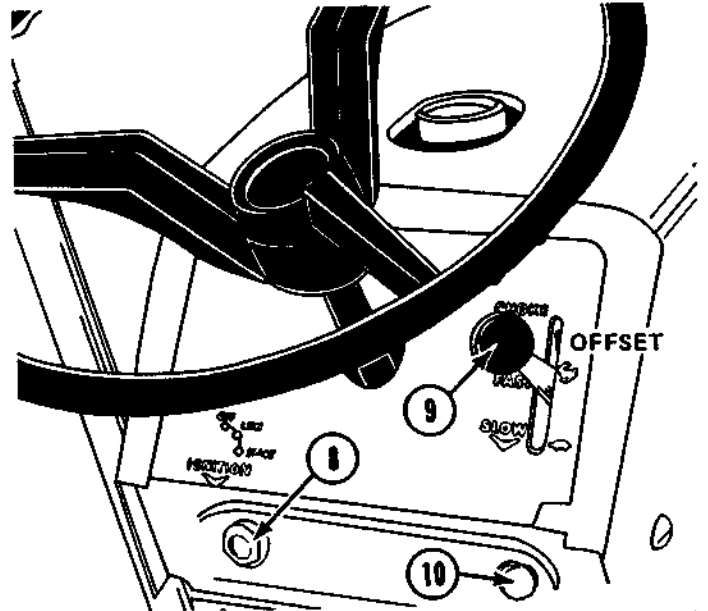

Figure 6
### IGNITION AND STARTER SWITCH – Figure 6
### THROTTLE-CHOKE CONTROL LEVER – Figure 6
### LIGHT SWITCH (Optional)–(Figure 6)
5. Raise throttle choke control lever (9) Figure 6, past the offset in the slot to the "choke" position.
6. Turn ignition key (8) shown in Figure 6 clockwise all the way. Release key as soon as the engine starts and gradually lower the throttle-choke control lever past the offset until the engine runs at 1/2 throttle.